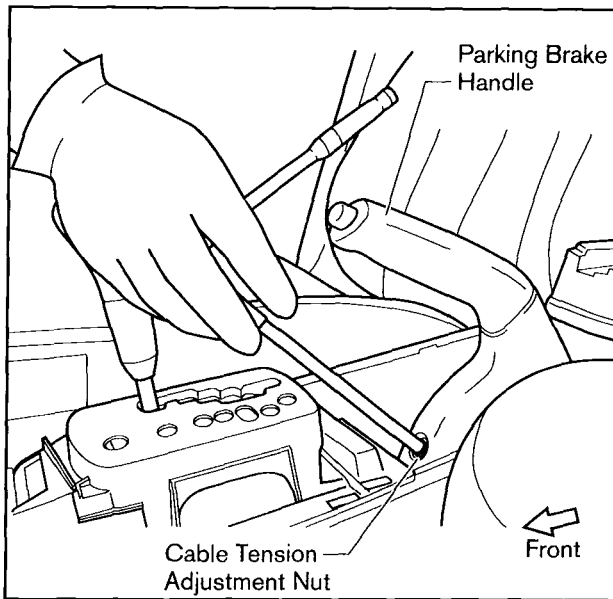
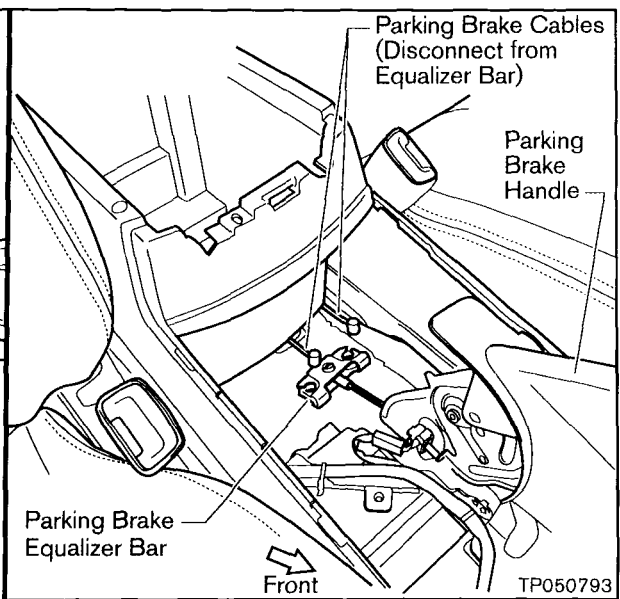

Figure A3a
Figure A3b
- c. Turn the cable tension adjustment nut counter-clockwise (left) to release the parking brake cable tension (see Figure A3a). Then disconnect the parking brake cables from the equalizer bar (see Figure A3b).